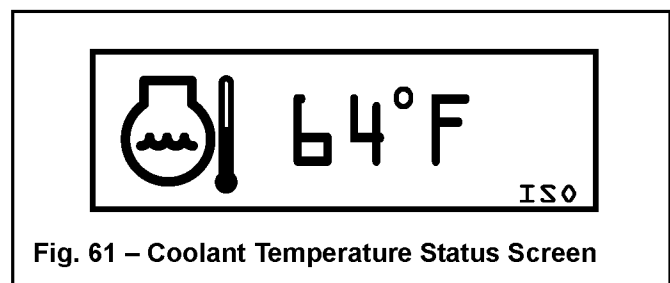

Fig. 61 – Coolant Temperature Status Screen
9. When stationary regeneration is complete, the display returns to the coolant temperature status screen (Fig 61).